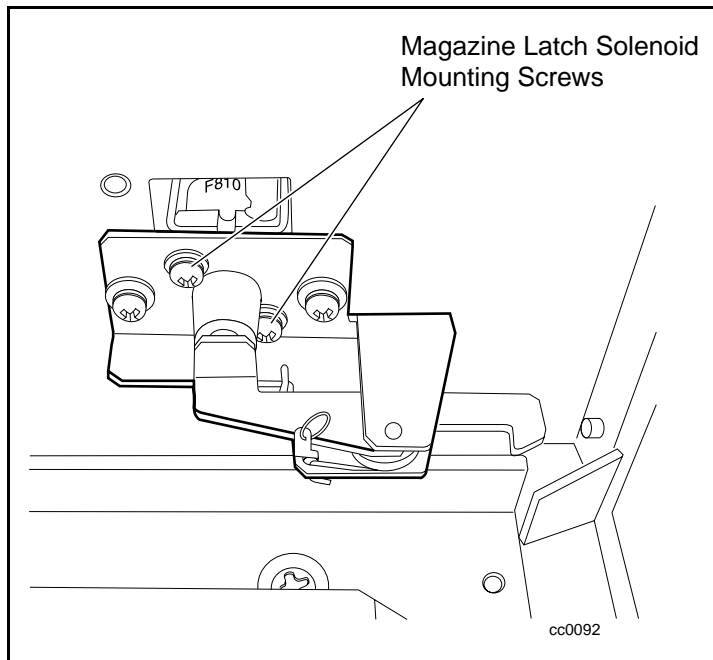

Figure 5-22. Magazine latch solenoid mounting bracket screw locations
4. Remove the two screws that secure the magazine latch solenoid to its mounting bracket (see Figure 5-22).
2. Tighten the two screws that attach the solenoid to its mounting bracket (see Figure 5-22).